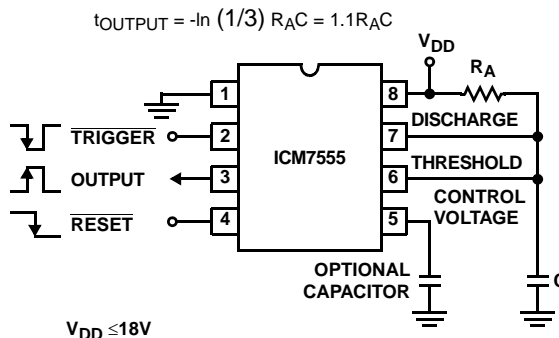

FIGURE 3. MONOSTABLE OPERATION
In this mode of operation, the timer functions as a one-shot, see Figure 3. Initially the external capacitor (C) is held discharged by a transistor inside the timer. Upon application of a negative $\overline{\text{TRIGGER}}$ pulse to pin 2, the internal flip-flop is set which releases the short circuit across the external capacitor and drives the OUTPUT high. The voltage across the capacitor now increases exponentially with a time constant $t = R_A C$. When the voltage across the capacitor equals $\frac{2}{3} V+$, the comparator resets the flip-flop, which in turn discharges the capacitor rapidly and also drives the OUTPUT to its low state. $\overline{\text{TRIGGER}}$ must return to a high state before the OUTPUT can return to a low state.